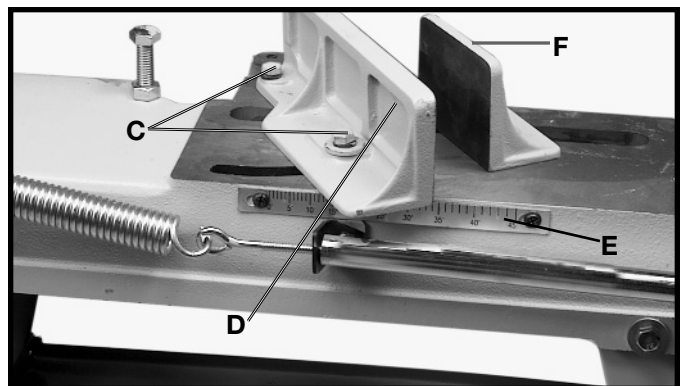

Fig. 25
The vise can be adjusted to cut any angle from 0 degrees to 45 degrees by loosening the two screws (C) Fig. 25, and positioning the vise jaw (D) to the desired angle. A scale (E) is positioned on the rear of the table to give the proper cutting angle. It may also be necessary when angle cutting to move the left vise jaw (F) to the rear to clear the blade guide bracket.